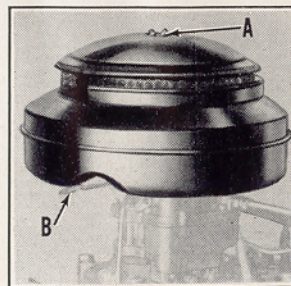

Figure 34
1. Remove wing nut (A) at top of cleaner (Figure 34) and lift gauze unit.